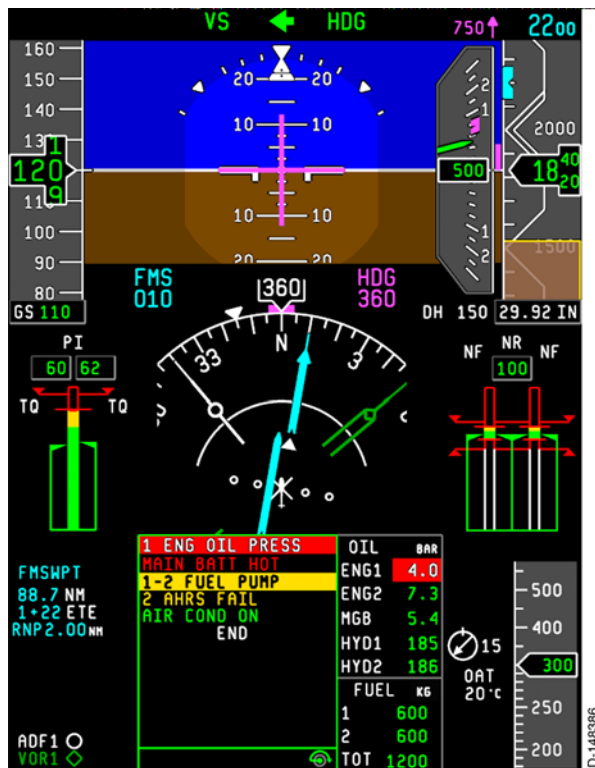

Figure 7-3
- The composite mode is given to ensure availability of essential flight information following a failure of one of the aircraft displays. The composite format, as shown in Figure 7-3, is intended to replicate the PFD layout where possible.